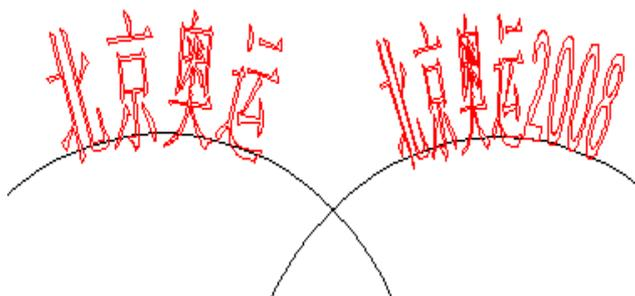
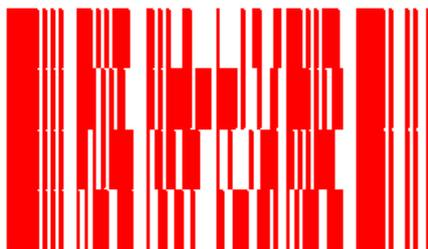
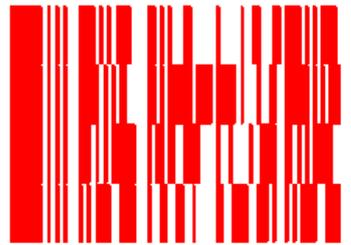

Figure 4-13 Comparison of Two Texts (Limiting Angle is 45 degrees.)
Figure 4-18 PDF417 Barcode
Figure 4-19 Compress PDF417 Barcode
Normal mean text will be parallel with the curve, as fig 4-13.
Fig 4-13 normal arrange
Base means the base line of the text is superposition with the curve, as fig 4-13.
position of the text is up to  as fig 4-18.
Fig 4-18 freely arrange
put text on the other side of the curve, after this function, fig 4-13 will like fig 4-19.
Fig 4-19 put text on the other side of the curve
**Angle range limit:** When checked, no matter how much chars that users type in, the text will be limited in the angle range. (Figure 4-13)
PDF is the abbreviation of the Portable Data File. Figure 4-18 is the demonstration of PDF417 Barcode and Figure 4-19 of the Compress PDF417 Barcode. Figure 4-20 is the parameter setting of the PDF417 Barcode.
Figure 4-18 shows a feature of a barcode with the row's number is four and the column's is four.